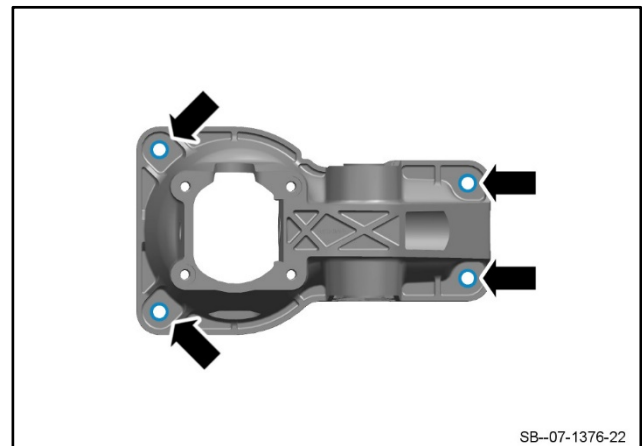

Figure 9
10. Use a drill with an 8 mm drill bit to increase the size of the four holes shown (refer to Figure 9).